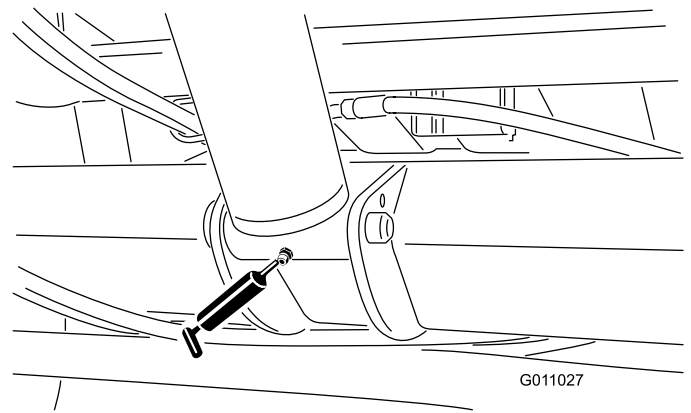

Figure 31
- Lift cylinder (2) (Figure 31).